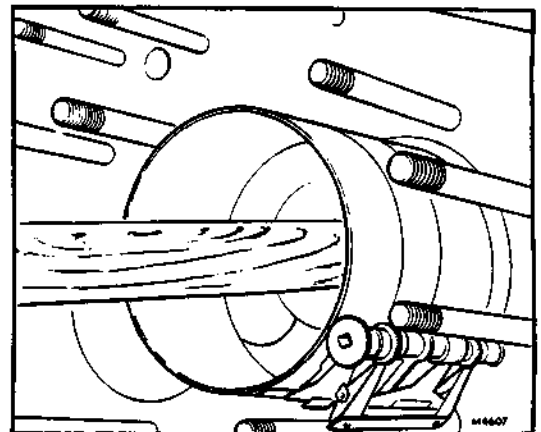
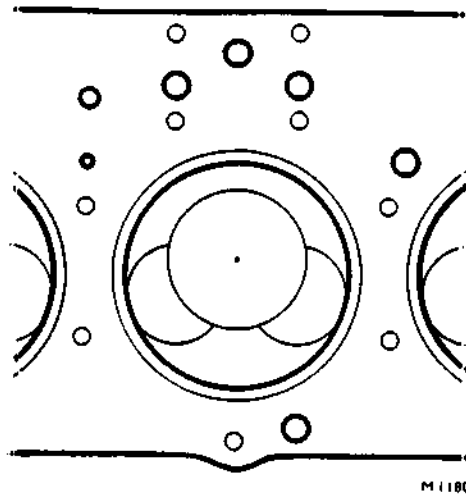

FIG. 2. PISTON RING COMPRESSION TOOL NO 8
FIG. 3. PISTON CORRECTLY POSITIONED IN ENGINE BLOCK
The piston rings should be fitted in the following sequence using the tool shown in Fig. 2.
3. Using a piston ring compressing tool. Refer to Fig. 2. Tap each piston lightly into its cylinder bore with offset combustion chamber on camshaft side of engine (Fig. 3).